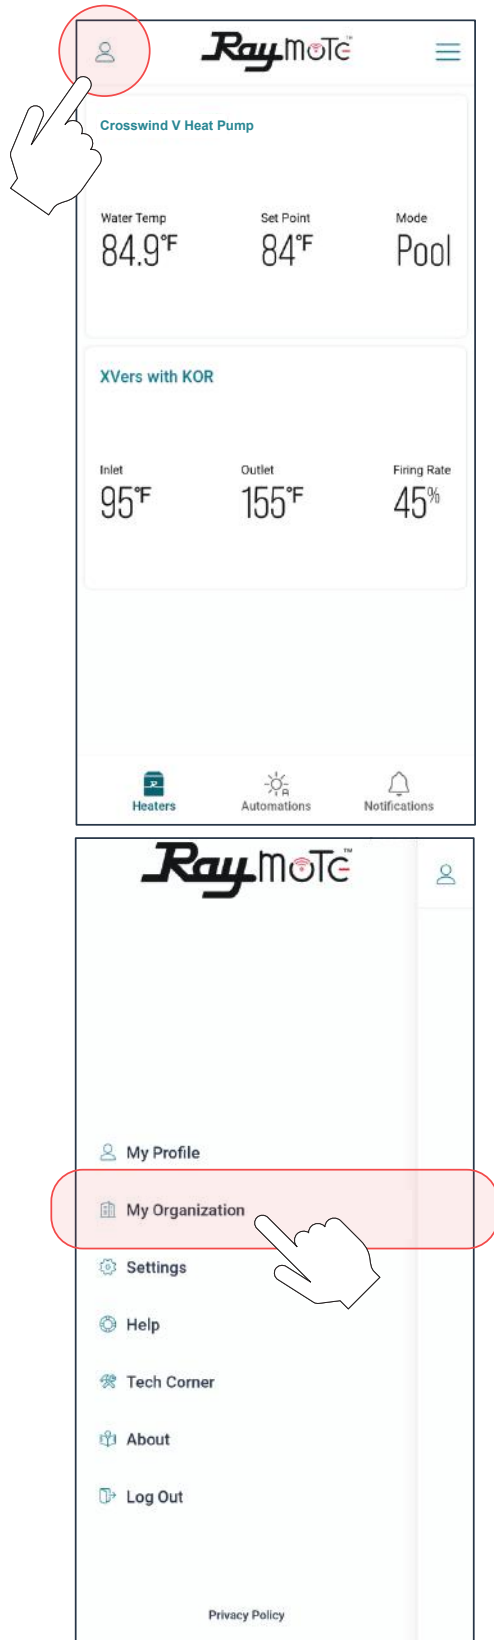

Figure 108. Select Organization Option
2. Click on the top-left "User menu". Then, select "My Organization" option. See Figure 108.